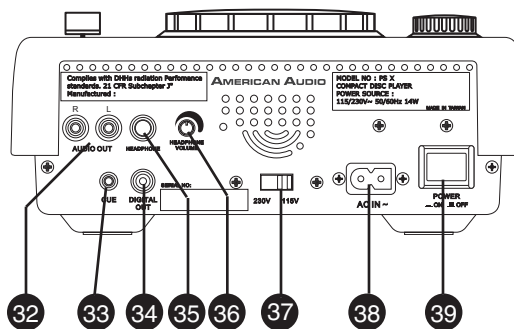

Figure 4
22. (+) PITCH BEND BUTTON - The (+) pitch bend function creates a momentary "BUMP" in the CD's BPM's (Beats per minute) while it is playing. This will allow you to match the beats between two playing CD's or any other music source. Remember, this is a momentary function. When you remove your finger from this button, the BPM's will automatically return to *PITCH SLIDERS* (17) selected pitch. Holding down this button will give a maximum of +100% pitch.
23. PITCH PERCENTAGE BUTTON - This button will change the pitch percentage the *PITCH SLIDER* (17) will react to. The pitch percentage can be changed between 8%, 12%, and 16%. 8% will allow the least amount of pitch manipulation and 16% will allow the most amount of pitch manipulation. To adjust to the different values tap this button at any time. The LED above the *PITCH PERCENTAGE BUTTON* (23) will indicate which pitch percentage mode you are in, glowing green for 8%, glowing orange for 12%, or glowing red for 16%. Note, the Pitch Function must be activated (Pitch On/Off) to get a LED reading.
24. PITCH ON/OFF BUTTON - This button is used to turn the *PITCH SLIDER* (17) function on and off. The PITCH BUTTON's LED will indicate the pitch function has been activated.
B. REAR PANEL (FIGURE 4)